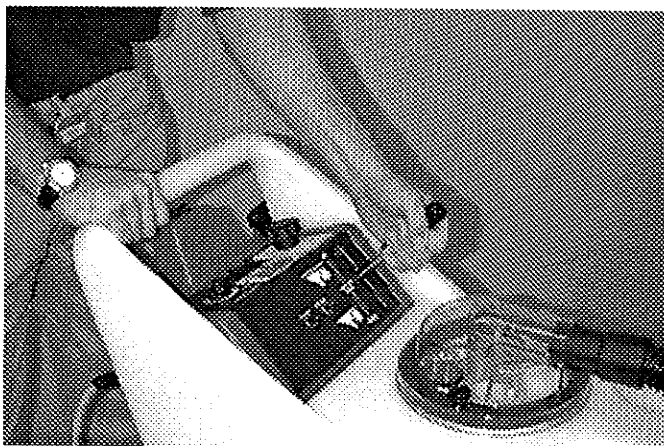

FIG. 4
1. Lower brush to carpet using the brush lift lever. (Figure 4)